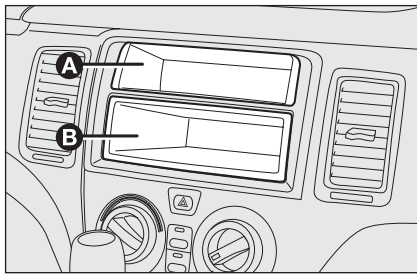

fig. 2
- with fixed oddment compartment **A-fig. 2** and extractable component (DIN) **B-fig. 2** for installing the sound system;